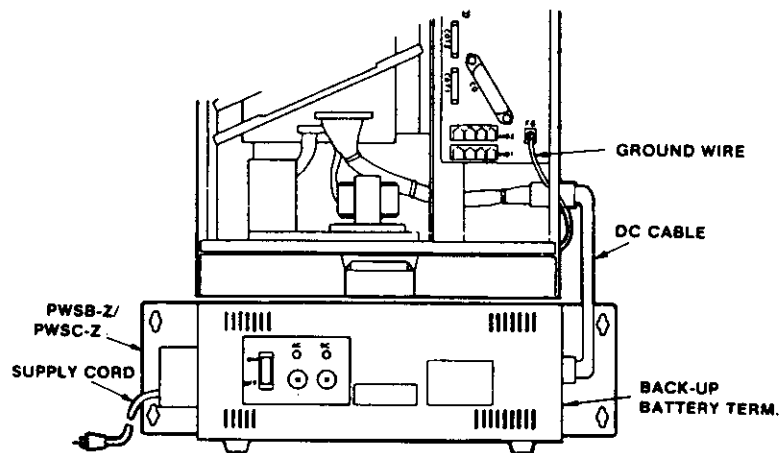

FIGURE 4-18 PWSB/C INSTALLATION
- For wall mounting, use four screws and attach two Wall Mounting Brackets on the back of the power supply unit as shown in Figure 4-18.